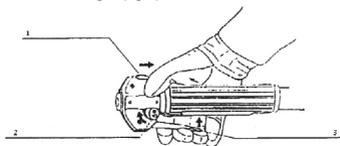

Fig. 7
- Move the ON/OFF switch away from the STOP position. The engine will not start if the ON/OFF switch is in the STOP position (Fig. 7).
- Press the Trigger Lever and move the lever of medium acceleration in the direction of the arrow (Fig. 7).
- Loosen the Trigger Lever; this will lock the lever of medium acceleration in position. Now you can start the engine (Fig. 7).